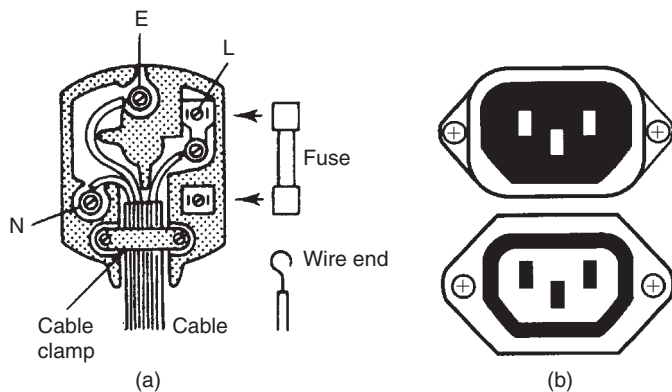

Figure 2.2 (a) BS, and (b) IEC mains connectors
The mains supply, which in the UK and in most of Europe is at 240 V a.c., is the greatest hazard in most electronic servicing work. Three connections are made at the usual UK domestic supply socket, labelled live (L), neutral (N) and earth (E). The live contact at 240 V can pass current to either of the other two. The neutral connection provides the normal return path for current with the earth connection used as an emergency path for returning current in the event of a fault. Earth leakage circuit breakers (ELCBs) work by detecting any small current through the earth line and using this to operate a relay that will open the live connection, cutting off the supply. Connection to domestic supplies is made by a three-pin plug, either the BS type or the International Electrotechnical Commission (IEC) type of connector shown opened in Figure 2.2. The BS plug is designed so that shutters within the socket are raised only when the plug is correctly inserted.